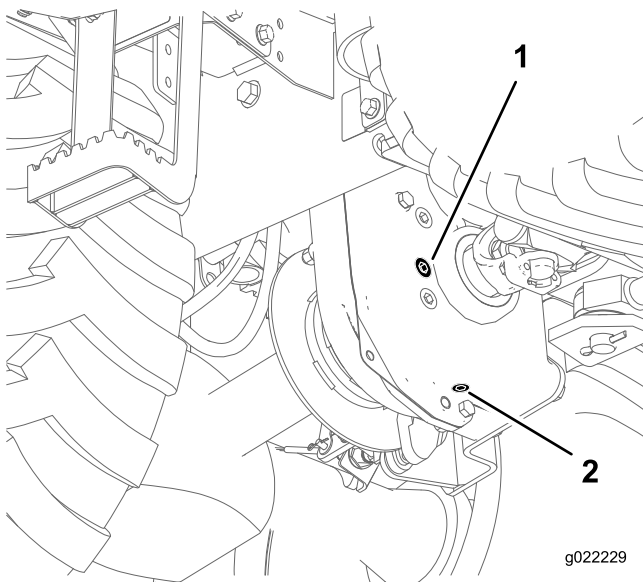

Figure 10
- Clean the area around the fill plug with a cleaning solvent (Figure 10).